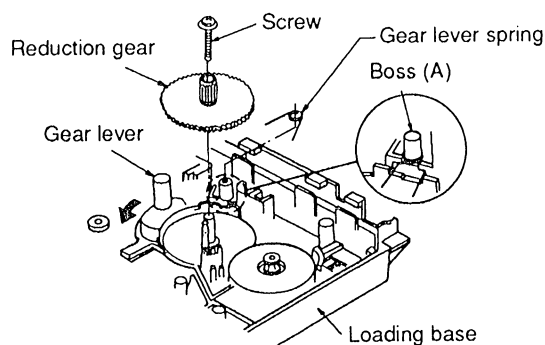

Fig.1
1. Install the gear lever on the loading base and then slide the gear lever in the direction of arrow ①. (See Fig.1.)
2. Install the reduction gear and secure it with a screw. (See Fig.1.)
3. Install the gear lever spring to the boss (A). (See Fig.1.)